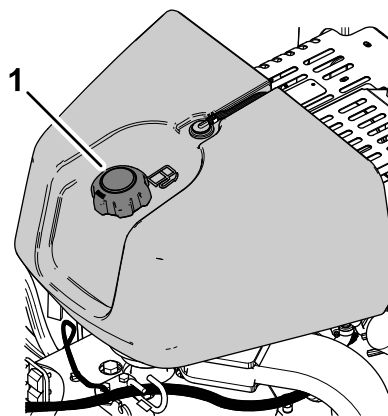

Figure 30
2. Clean around the fuel-tank cap and remove it (Figure 30).